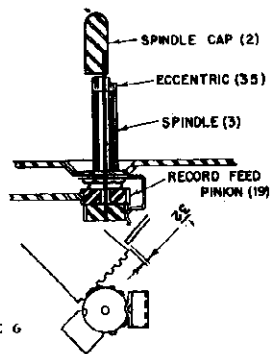

FIGURE 6
Check for bind in Spindle Assembly (See Figure 6). Disassemble index collar and Record Feed Pinion (20), remove Spindle
(c) The Feed Sector Lever (19) should mesh with the Record Feed Pinion (20) as shown in Figure 6.
Check meshing of Feed Sector Lever (19) with Record Feed Pinion (20). Reset as shown in Figure 6.